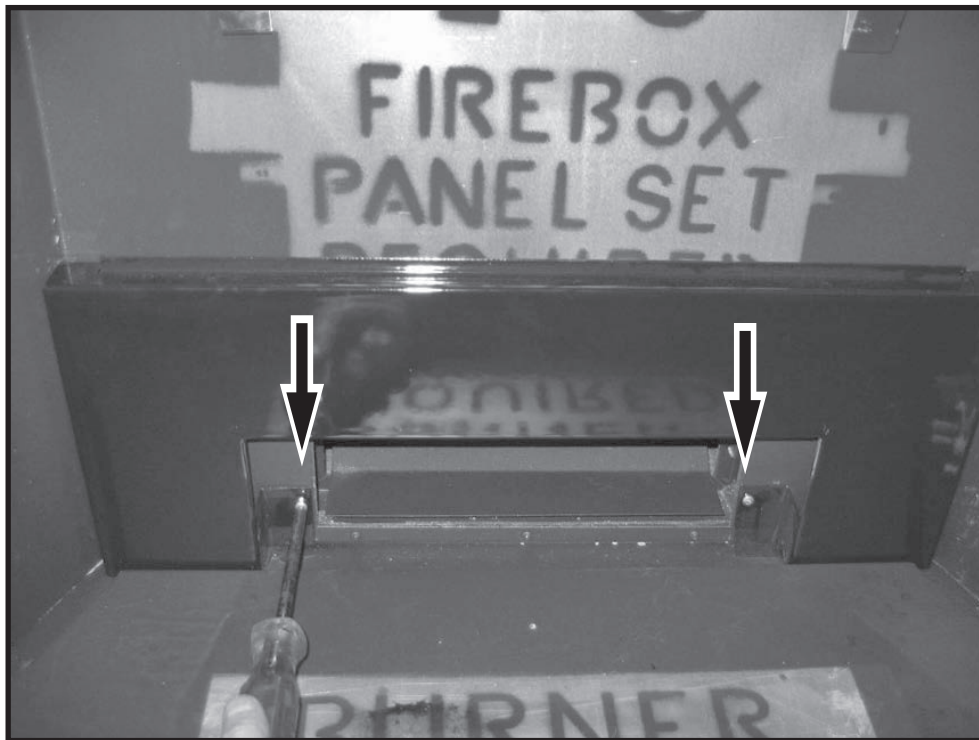

Figure 3: Removing screws from air channel.
2. Remove 2 screws from the air channel and attach the lower rear panel to the firebox with these screws (Figure 3).